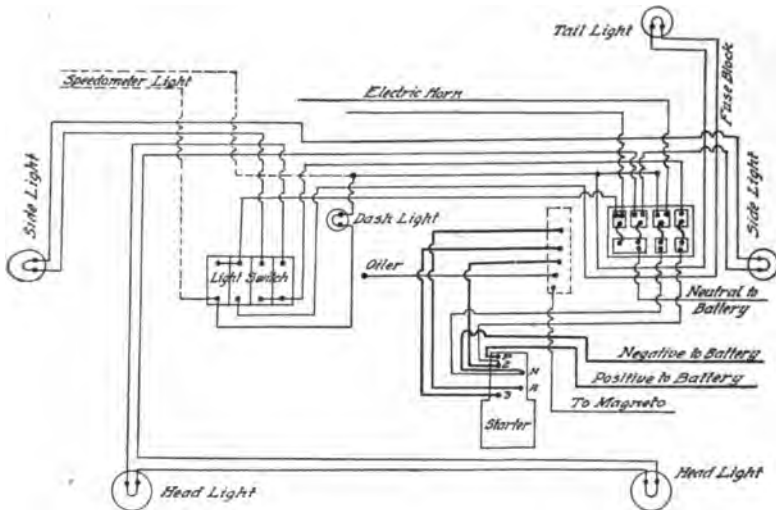

Fig. 296. Wiring Diagram of Leece-Neville System on White Cars
**Wiring Diagram.** Fig. 295 illustrates the Haynes 1915 installation. While two wires are employed for connecting all the apparatus, it will be noted that the storage battery and the dry-cell battery are grounded by a common ground connection. This is to permit using current from the storage battery for ignition, the corresponding ground to complete the circuit being noted at the ignition coil, close to the distributor. The connections *G* and *B* on the panel board are those of the generator and the battery to the indicating battery cut-out, the connections of three lighting switches being shown just to the right. In Fig. 296 is shown the Leece-Neville installation in White cars.